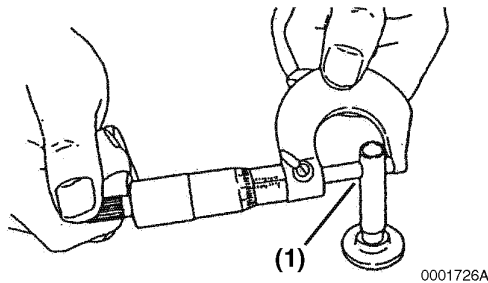

Figure 8-62
2. Measure the outside diameter of the tappet stem (**Figure 8-62, (1)**). See "Tappet" on page 8-13 for the service limit.